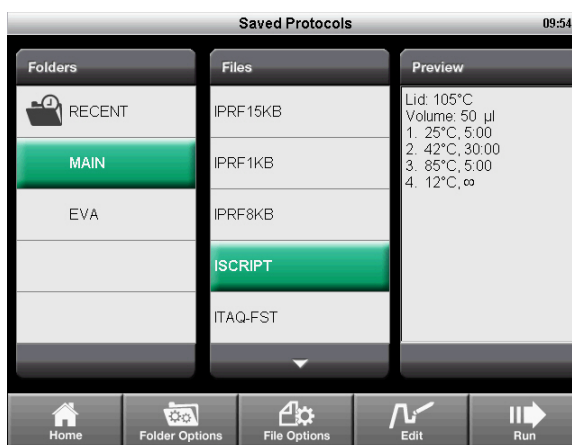

Figure 15. The ISCRIP protocol selected from the Saved Protocols screen
1. To run a saved protocol, touch **Saved Protocols** from the home screen (Figure 15).